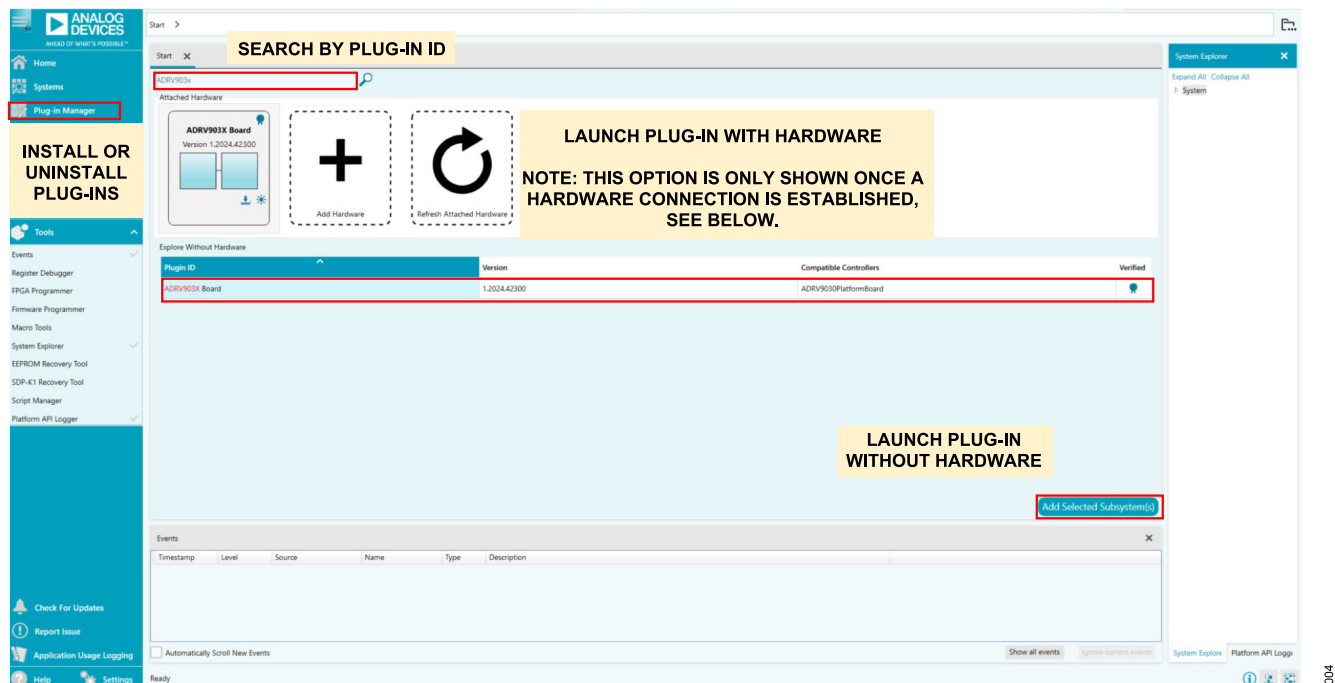

Figure 4. ACE Startup Screen Showing the Installed ADRV903x Plugin That Can Be Double Clicked to Start the Configurator Without Any Hardware
Once ACE is installed, the ADRV903x plugin can be installed by double clicking on the included **.acezip** file. This launches ACE with the ADRV903x plugin listed in the **Explore Without Hardware** section as **ADRV903x Board** (see Figure 4). The plugin may take a moment to load on ACE first launch. Alternatively, **ACE Plug-in Manager** can be used for installing the plugin as described in the Installing the ADRV903x Plugin Using the ACE Plug-in Manager section. The uninstallation process for plugins is also described in the Appendix section.
- ▶ Without hardware. Double click on the ADRV903x plugin row under **Explore Without Hardware** or select the plugin row and click on **Add Selected Subsystem(s)** to start as shown in Figure 4.